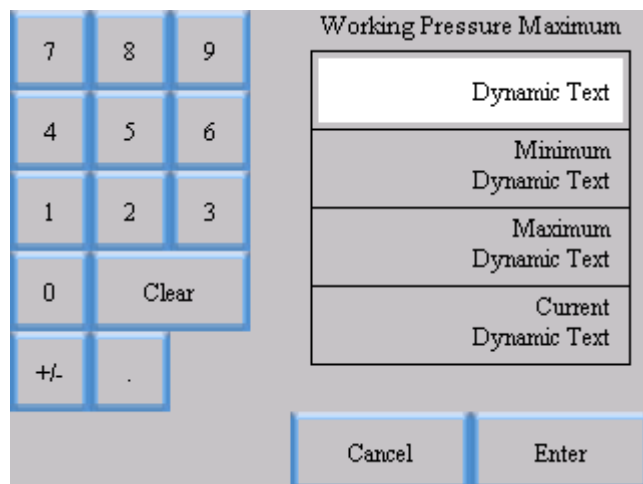

Figure 7 Numerical input screen
- 2 Press the **Numeric blue display** button next to Working Maximum SP. A numerical input screen appears (Figure 7). Type in **12.0** and press the **Enter** key.